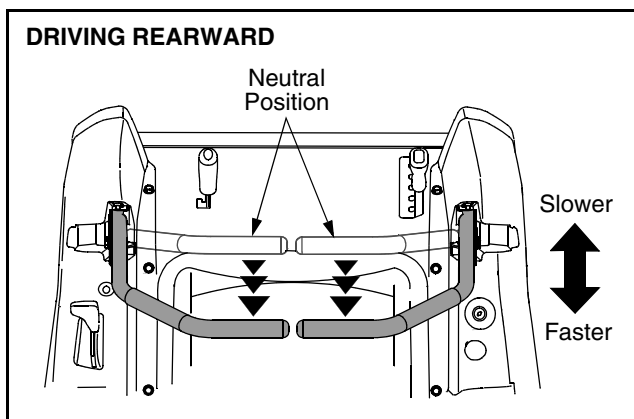

Figure 13
- Slowly and evenly move both drive control levers rearward. The tractor will start to move in the reverse direction. See Figure 13.